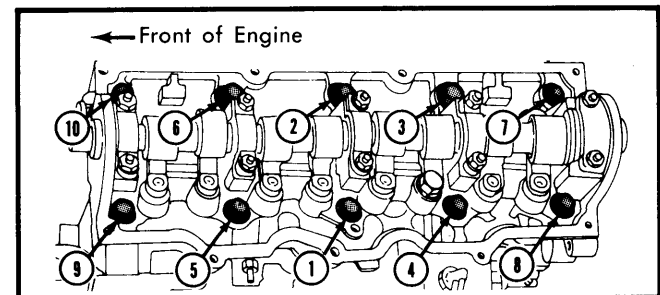

Fig. 2 Cylinder Head Tightening Sequence (Loosen in Reverse Order – No. 10 to No. 1)
2) Place new gasket on block, install cylinder head and head bolts, tightening in 3 steps: 1st to 30 ft. lbs. (41 N•m); 2nd to 45 ft. lbs. (61 N•m); 3rd, check again at 45 ft. lbs. (61 N•m) and turn another 1/4 turn. See Fig. 2.